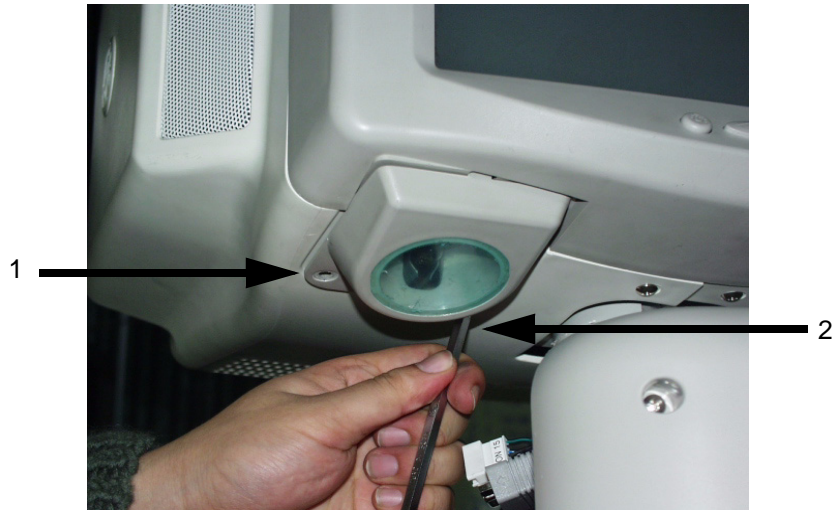

Figure 8-15 Removing Task Lamp Cover
- 1.) Unscrew two (1-2) screws to remove the TaskLamp Cover. Refer to Figure 8-15.